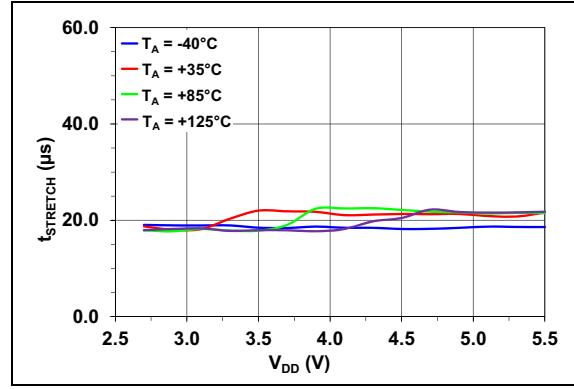

FIGURE 2-29: I^2C Interface Clock Stretch Duration, $t_{STRETCH}$ Across V_{DD} .
- 4 Master controllers without features to detect clock stretching by Slave devices, should reduce f_{SCL} for proper I²C communication for Read commands. See Figure 2-29 for a typical $t_{STRETCH}$ performance.